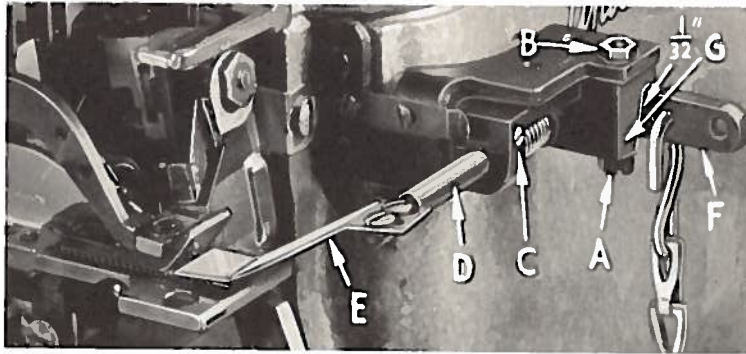
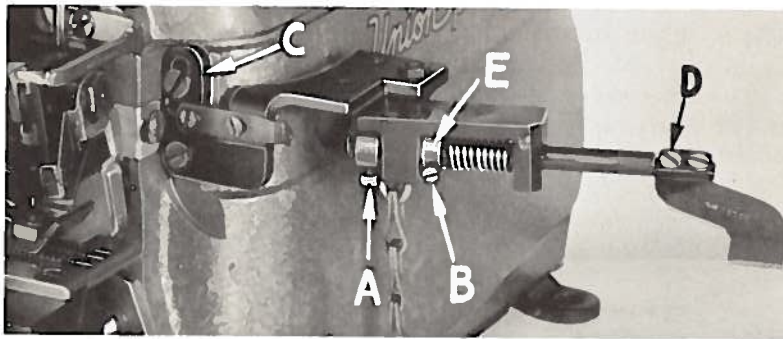

Fig. 17
Fig. 18
Styles 39500 T, U are equipped with an auxiliary pressure plate assembly (Fig. 17) which operates in conjunction with the presser foot.
in either direction about 180° from operating position and tighten screw (B, Fig. 18).
3. Adjust the shaft (D) laterally so that the pressure plate (E) locates centrally over the differential feed dog. Loosen screws (A and B, Fig. 18) to do this. Making this adjustment will release the spring tension on the pressure plate. To re-gain the tension, swing the pressure plate out and turn the shaft (D, Fig. 17)
4. With the differential feed dog down below the surface of the throat plate, and the pressure plate resting on the throat plate with the maximum pressure the spring will allow, there should be about $1/32$ inch clearance between the operating lever (F, Fig. 17) and the hinge block (G). To make this adjustment loosen screw (A, Fig. 18) and move lever to desired position.
5. With the differential feed dog at its highest point of travel, raise or lower the mounting bracket (C, Fig. 18) so that the auxiliary pressure plate is parallel with feed dog teeth.
6. Adjust the pressure plate in or out towards presser foot, maintaining it parallel with the feed dog, so that there is sufficient clearance between the end of plate and presser foot to permit free passage of the thickest part of the top ply being sewn. Use the two screws (D, Fig. 18) for this adjustment.
7. There are two spring anchoring holes in collar (E, Fig. 18) which may be used for increasing or decreasing spring tension on auxiliary pressure plate.
8. A chain is provided for raising the auxiliary pressure plate in conjunction with the presser foot. Couple this chain from the operating lever (F, Fig. 17) to the presser foot lifter chain so that when the foot lifter treadle is depressed, the presser foot raises before the pressure plate. The chain is normally attached to the operating lever at the inside hole.